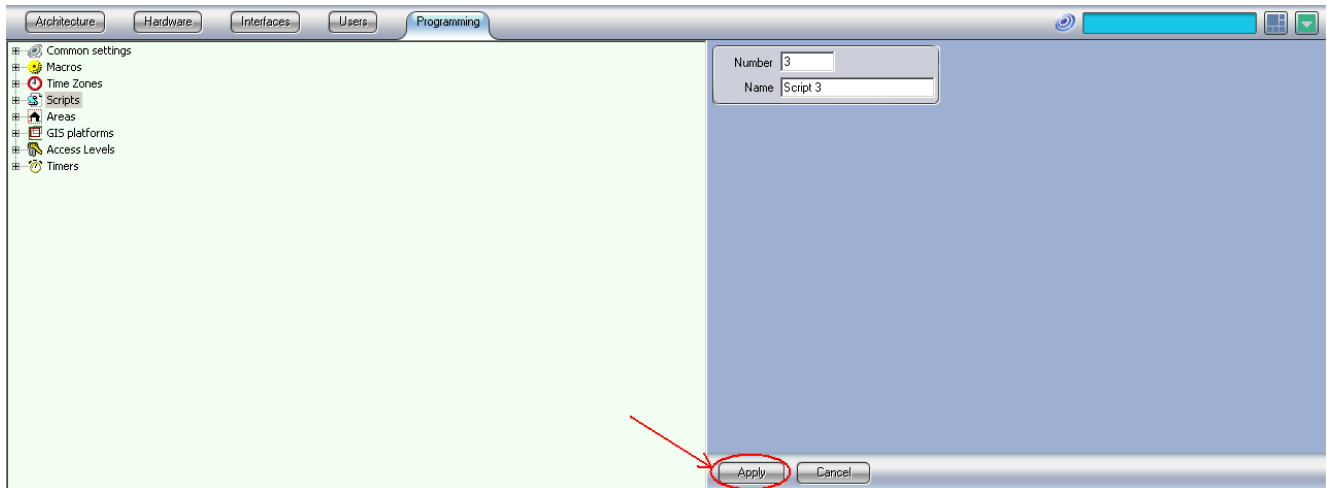

fig. 51
- Create a Script object from the “System settings → Program” tab (fig.51) – going to the Script module and press the “Apply” button;